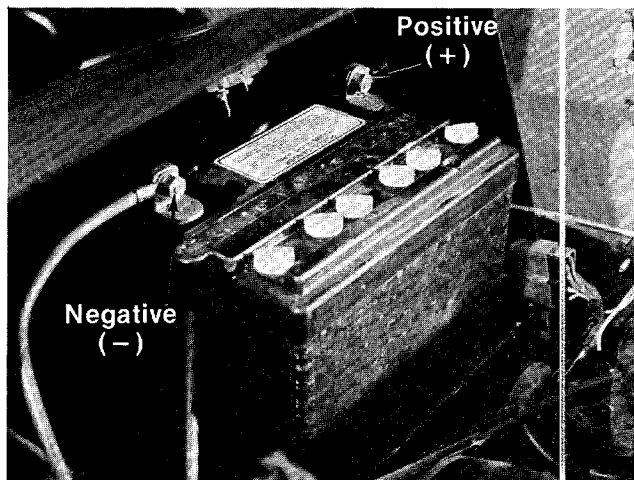

FIGURE 1.
1. Place the battery in the battery case with the terminals to the rear of the unit. See figure 1.
2. Attach the positive battery cable (which has two red wires) to the positive battery terminal. See figure 1.
3. Attach the negative battery cable (grounded, black wire) to the negative battery terminal. See figure 1.